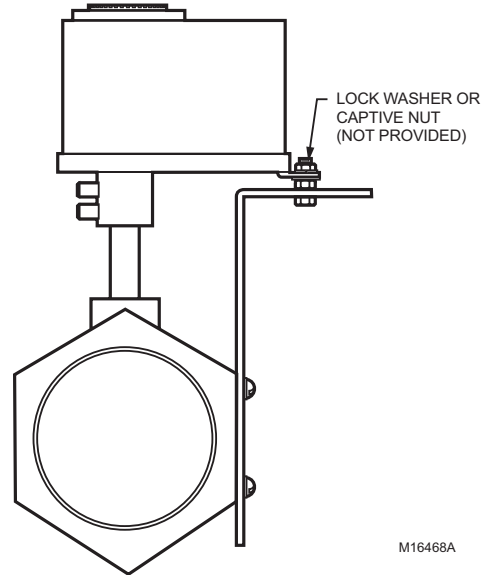

Fig. 4. Mounting ML7999 with mounting bracket accessory.
4. Install the mounting bracket accessory (not included), if needed. See Fig. 4.